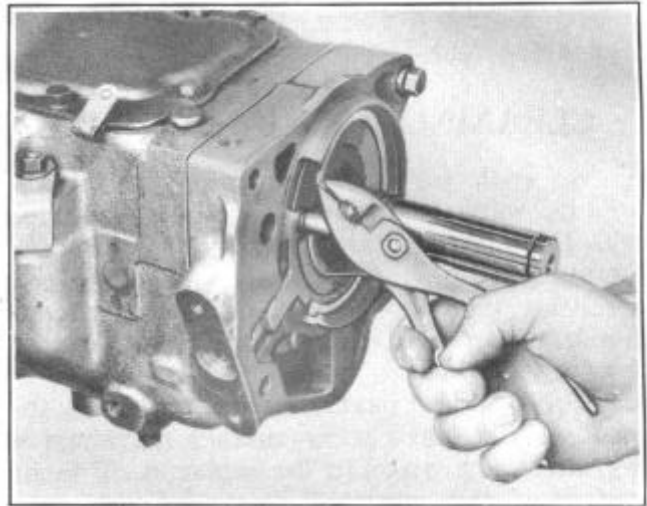

FIGURE 18
8. Remove the large snap ring at the adapter plate, Figure 18.
2. Install the adaptor lock ring (large) Figure 18.
2. Install the adaptor lock ring (large), Figure 18.